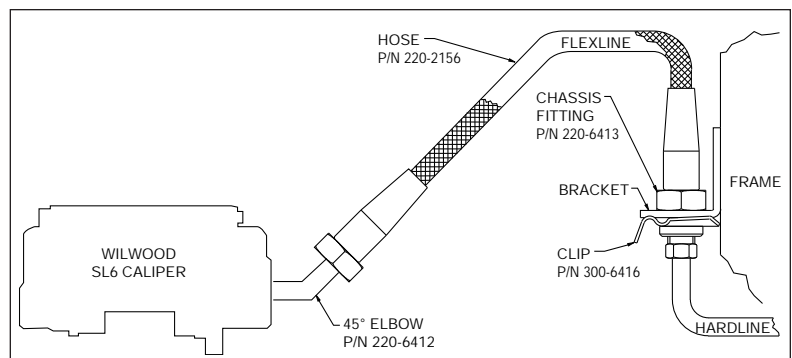

Figure 4. Brake Line Diagram
- Install Wilwood's optional stainless steel braided flexline hose kit, part number 220-9100 (NOT included in kit), see Figure 4. **NOTE:** OEM rubber brake hoses generally cannot be adapted to Wilwood calipers. The caliper inlet fitting is a 1/8-27 NPT. The preferred method is to use steel adapter fittings at the caliper, either straight, 45 or 90 degree and enough steel braided line to allow for full suspension travel and turning radius, lock to lock. **Carefully route lines to prevent contact with moving suspension, brake or wheel components.** Wilwood hose kits are designed for use in many different vehicle applications and it is the installer's responsibility to properly route and ensure adequate clearance and retention for brake hose components.